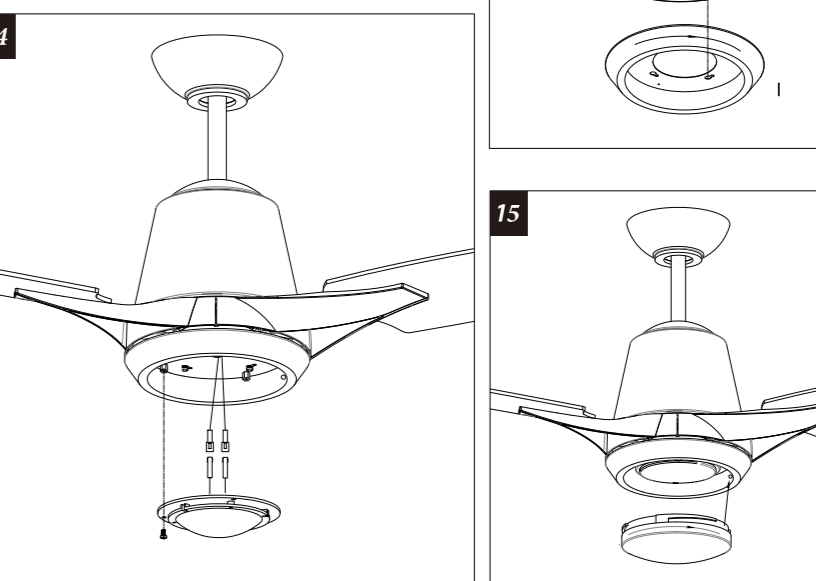

Fig.14
- Remove 3 screws from the light kit and connect the single pin wire from the light kit to the motor. (Fig.14)